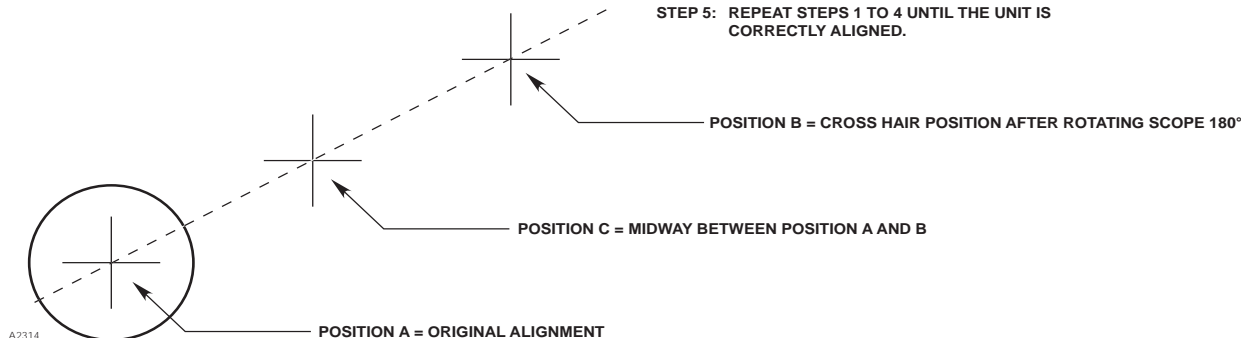

Figure 19—OPECL Alignment using the Telescope Alignment Tool
- A. Adjust the telescope alignment screws until the cross hairs are midway between the original position (center of receiver window) and the current position (after the scope was rotated 180°). See Figure 19.